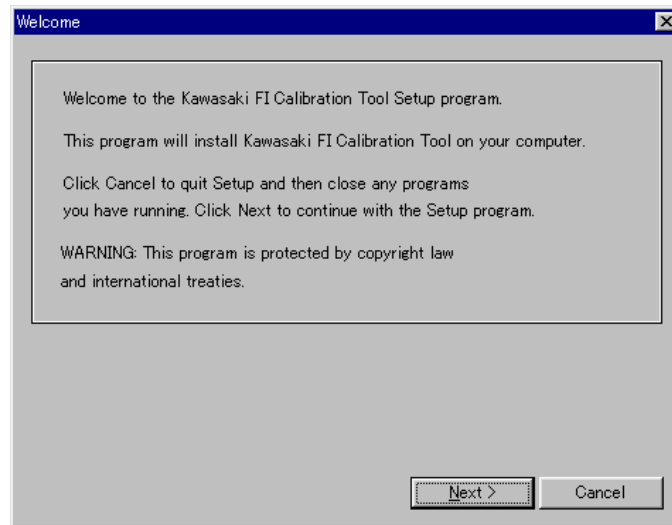

Fig. 2 Setting Screen of Setup Program
- (1) Execute **Setup.exe** to start the Setup program.
- (2) Then the screen shown in Fig. 2 appears.